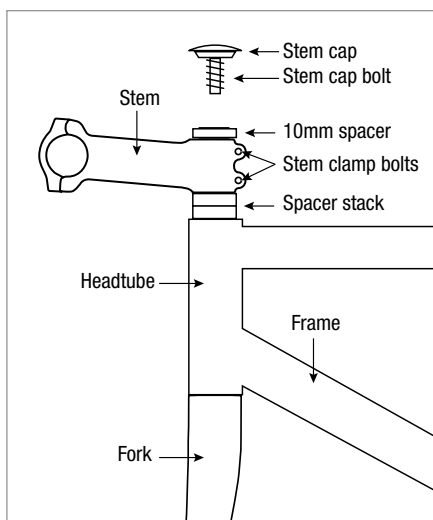

Figure 11
2. Re-Install the fork, spacers, stem, and all headset components into the headtube (Fig 11).